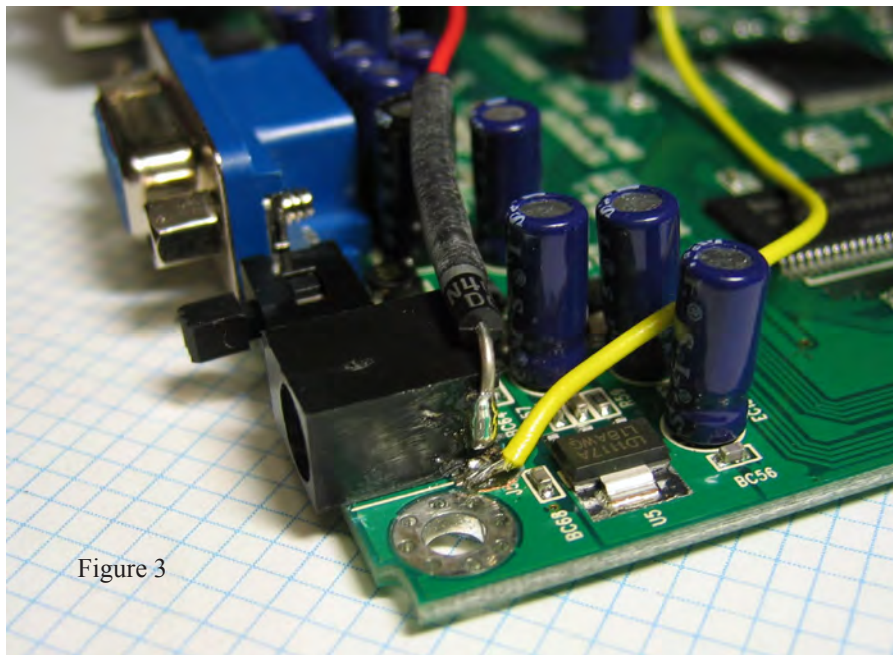

Figure 3
I cut the live tag coming out of the power connector from the PC board, as shown in Fig.3 and wired this through D1 to the regulators. I took the 5V output from the regulator and connected it to the 5V input to the PC board. Using a variable power supply, I applied 12V to the input power connector and checked that the output voltages of +9V and +5 were correct. I find it prudent to use a variable power supply and monitor the 5V output whilst gradually increasing the input to 12V. If there is a problem then you can stop in time!
- Fig. 3. Input Power Connector